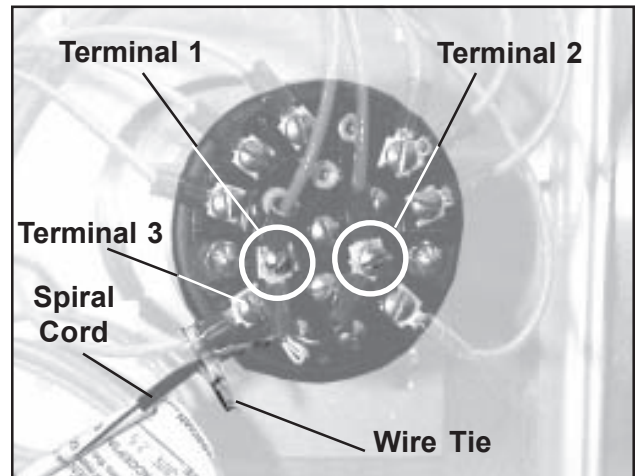
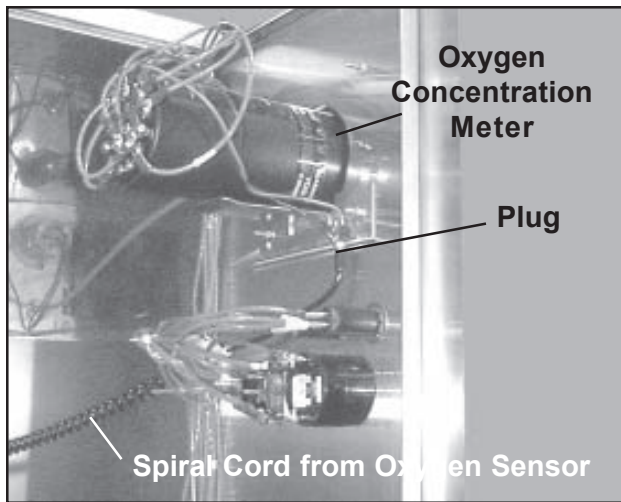

Figure 101. Oxygen Sensor Wire Connections on the Rear of the Oxygen Concentration Meter
Figure 103. Oxygen Sensor Spiral Cord and Plug
7. Cut and remove the wire tie holding the wires from the spiral cord to the wire on Terminal **3** (Figure 101).
4. Unplug the spiral cord from the oxygen concentration meter (Figure 103).
4. From the filter/fans compartment, string the oxygen sensor spiral cord through the hole in the large, black mounting ring, into the electronic compartment, and plug it into the oxygen concentration meter (Figure 103).
Note: Check Figure 103. If the spiral cord is attached to meter with the plug shown, unplug the cord. The meter wires will not be connected to the meter as shown in Figure 101.
Note: Plug the spiral cord into the meter, if the plug is present as shown in Figure 103.